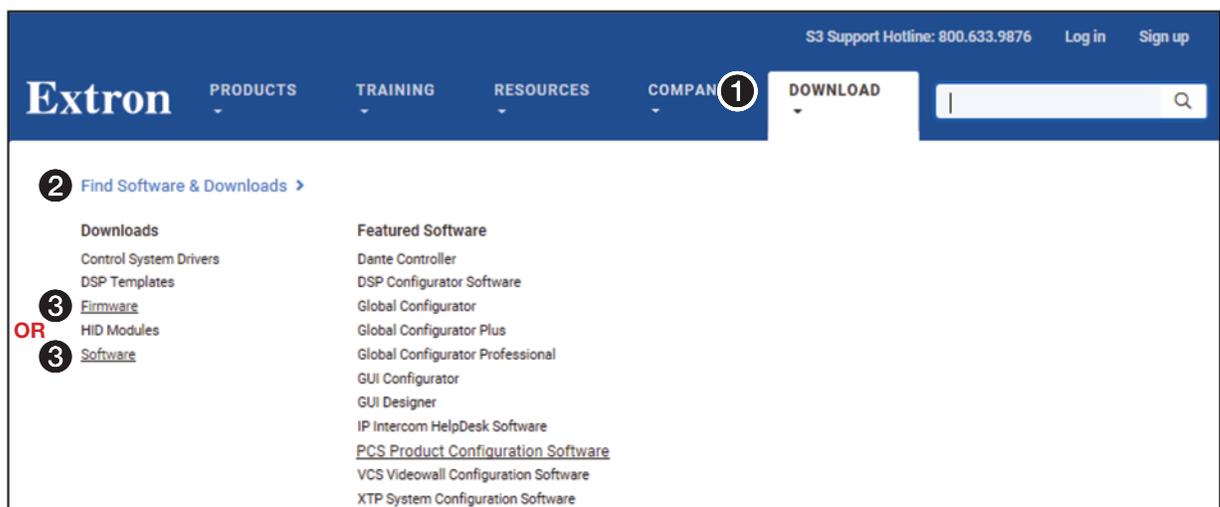

Figure 31. Selecting the Download Tab
1. Go to www.extron.com and hover the cursor over the **Download** tab (see figure 31, ❶). The **Find Software & Downloads** links appear (❷).